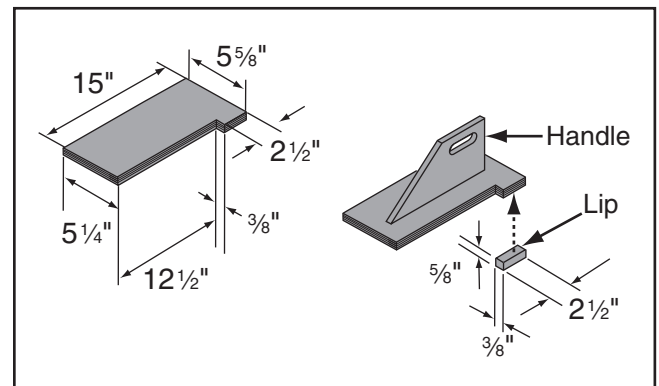

Figure 90. Push block dimensions and construction.
3. Using the $\frac{3}{4}$ " material you used in the previous steps, cut out pieces for the push block per the dimensions shown in **Figure 90**; for the handle, cut a piece 10" long by 5"–9" high and shape it as desired to fit your hand.